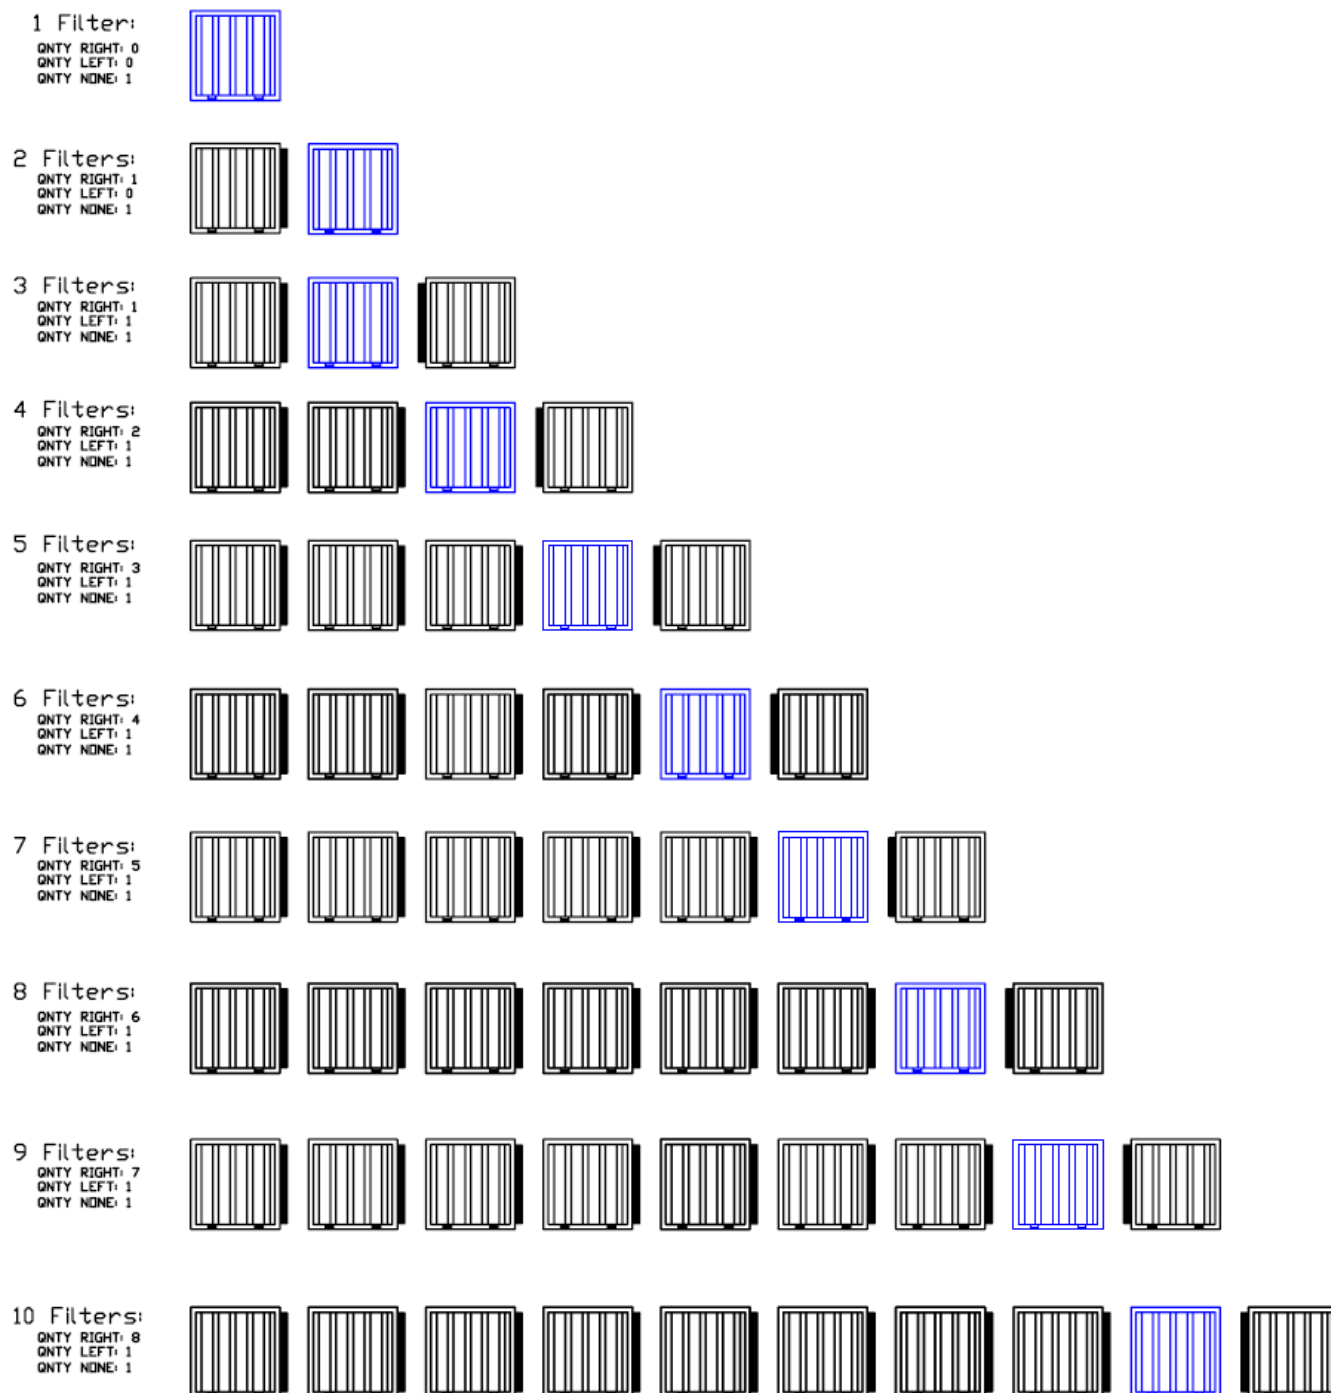

Figure 4
2. Install all hood filters per the filter installation configuration (Figure 4) chart below. There are drip blanks secured to the filters to prevent water from exiting the hood between the filters.
The hood filters have drip blanks attached to them to prevent water leakage through the filters. The chart below shows the location of the drip blanks and the last filter to be installed into the hood. See Figure 4 below for details.